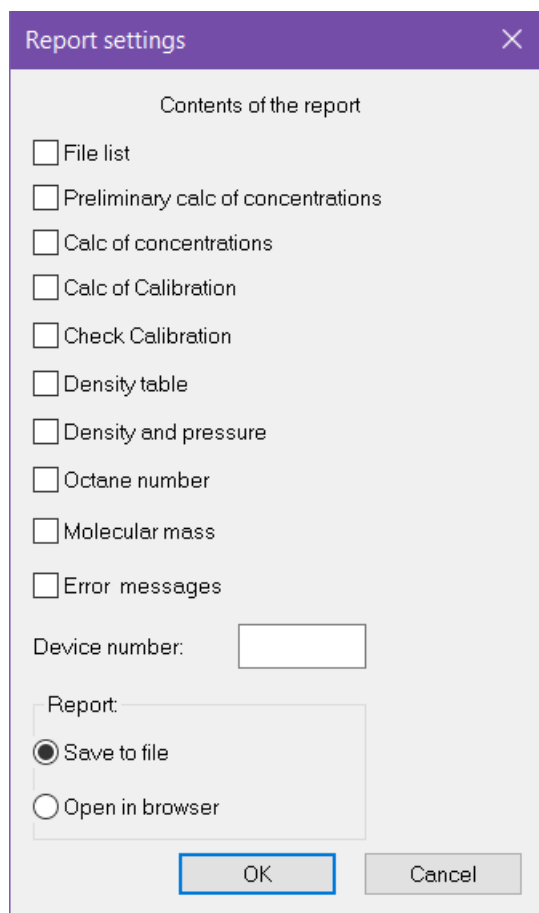

Fig. 6: Report settings
1. To generate the report, click **Report**. The *Report Settings* window opens (Fig. 6).